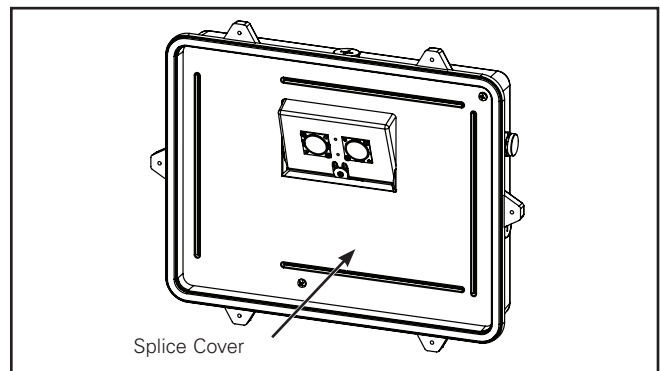

Figure 3.
6. Reattach the inner cover to the back plate making sure all wire connections are contained inside and no wires are pinched. (Figure 3)